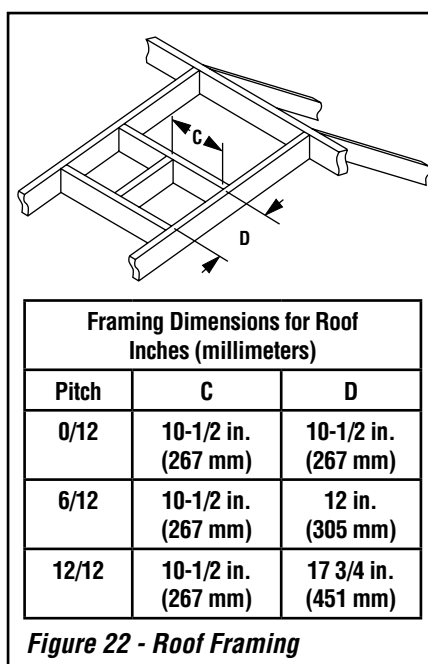

Figure 22 - Roof Framing
H. Frame roof opening - Identify location for vent at the roof. Cut and/or frame opening per Roof Framing Chart (**Figure 22**).